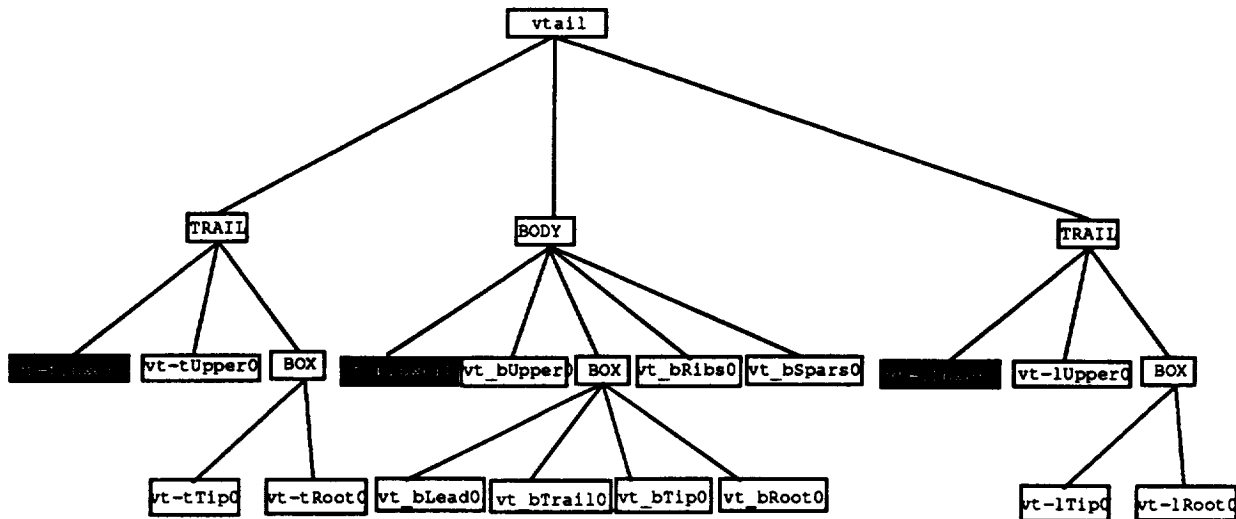

FIGURE C.13.
- Delete *vt_tLower0*, *vt_bLower0*, and *vt_lLower0* from the tree. In figure C.13, these nodes are shown in reverse video.